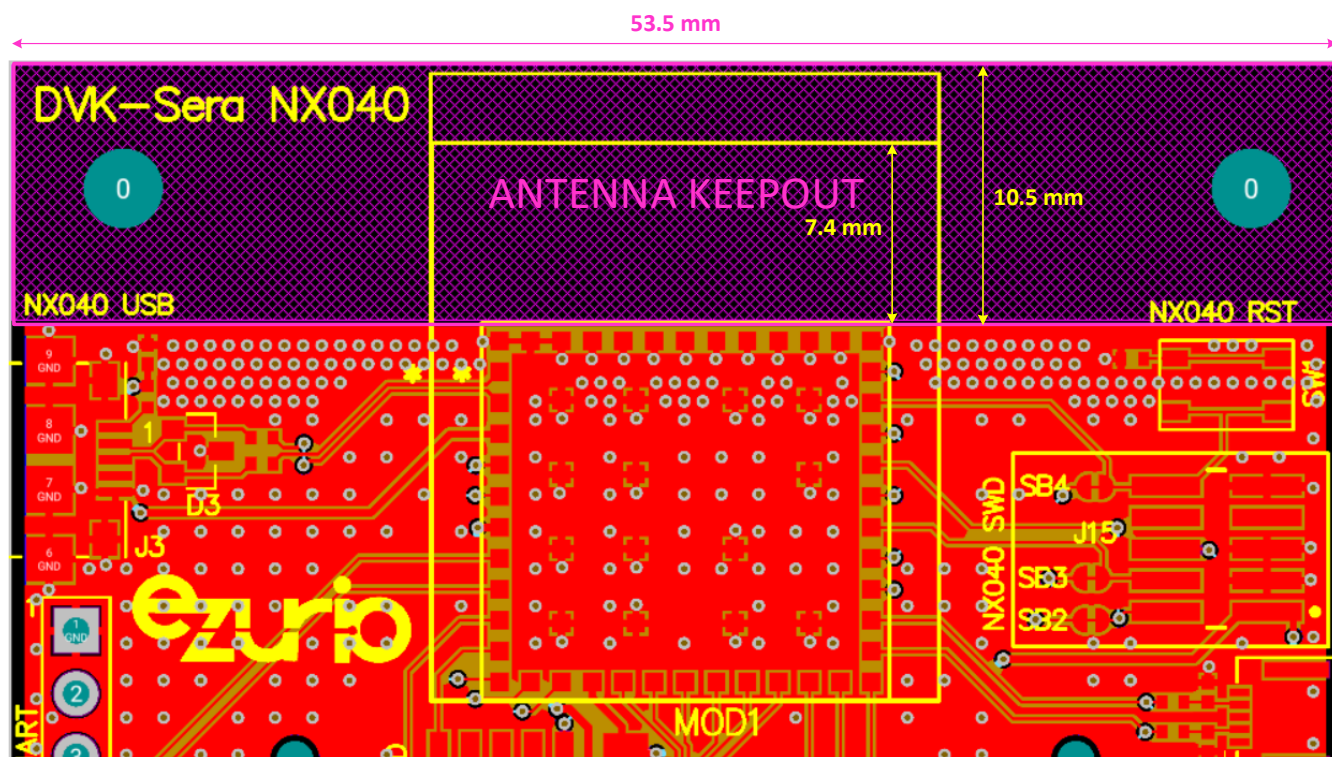

Figure 13: PCB trace Antenna keep-out area (cross-hatched), top edge of the NX040 development board for the 453-00175 module.
- The NX040 development board has the 453-00175 module on the edge of the board (not in the corner). The antenna keep-out area is defined by the NX040 development board which was used for module development and antenna performance evaluation is shown in Figure 13, where the antenna keep-out area is 10.5 mm high, 53.5 mm wide; with PCB dielectric (no copper) height 1.6 mm sitting under the 453-00175 PCB trace antenna.
- Note 2** For the best on-board antenna performance, the module 453-00175 MUST be placed on the edge of the host PCB and preferably in the edge center of the host PCB, with the antenna "Keep Out Area" is extended on the host PCB as in Figure 13.